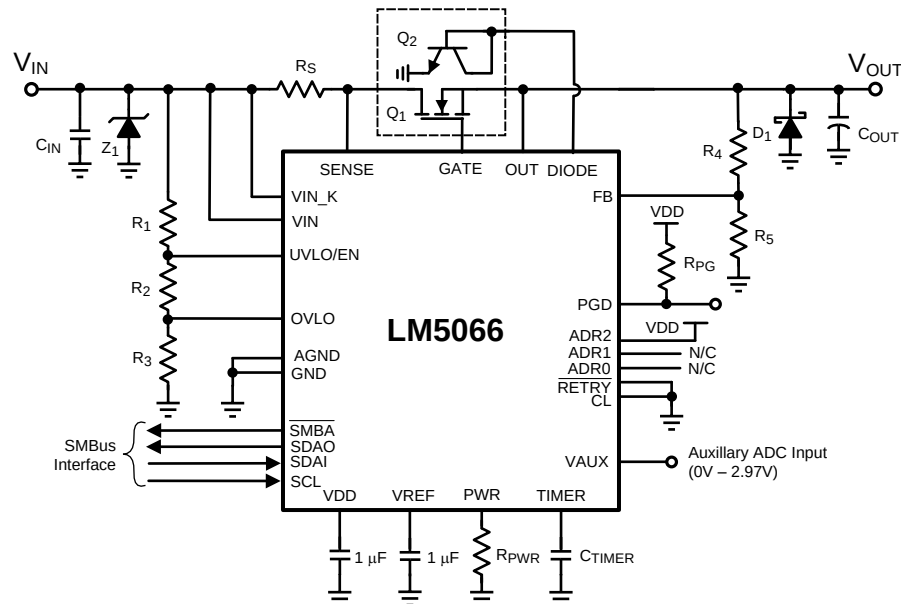
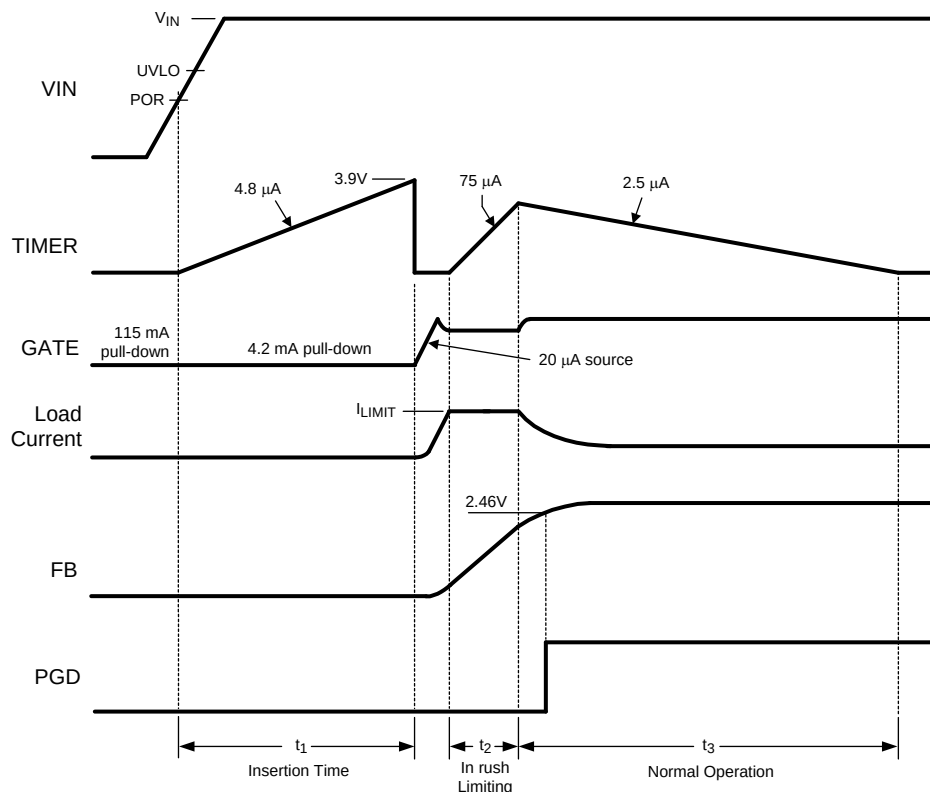

Figure 1. Typical Application Circuit
Figure 2. Power Up Sequence (Current Limit Only)
The V_{IN} operating range of the LM5066 is 10V to 80V, with a transient capability to 100V. Referring to Figure 1 and Figure 2, as the voltage at V_{IN} initially increases, the external N-channel MOSFET (Q_1) is held off by an internal 115 mA pull-down current at the GATE pin. The strong pull-down current at the GATE pin prevents an inadvertent turn-on as the MOSFET’s gate-to-drain (Miller) capacitance is charged. Additionally, the TIMER pin is initially held at ground. When the V_{IN} voltage reaches the POR threshold the insertion time begins. During the insertion time, the capacitor at the TIMER pin (C_T) is charged by a 4.8 μA current source, and Q_1 is held off by a 4.2 mA pull-down current at the GATE pin regardless of the input voltage. The insertion time delay allows ringing
As the voltage at the OUT pin increases, the LM5066 monitors the drain current and power dissipation of MOSFET Q_1 . In-rush current limiting and/or power limiting circuits actively control the current delivered to the load. During the in-rush limiting interval (t_2 in Figure 2) an internal 75 μ A fault timer current source charges C_T . If Q_1 's power dissipation and the input current reduce below their respective limiting thresholds before the TIMER pin reaches 3.9V, the 75 μ A current source is switched off, and C_T is discharged by the internal 2.5 μ A current sink (t_3 in Figure 2). The in-rush limiting will no longer engage unless a current-limit condition occurs.
A charge pump provides the voltage at the GATE pin to enhance the N-Channel MOSFET's gate (Q_1). During normal operating conditions (t_3 in Figure 2) the gate of Q_1 is held charged by an internal 20 μ A current source. The charge pump peak voltage is roughly 13.5V, which will force a V_{GS} across Q_1 of 13.5V under normal operation. When the system voltage is initially applied, the GATE pin is held low by a 115 mA pull-down current. This helps prevent an inadvertent turn-on of Q_1 through its drain-gate capacitance as the applied system voltage increases.
During the insertion time (t_1 in Figure 2) the GATE pin is held low by a 4.2 mA pull-down current. This maintains Q_1 in the off-state until the end of t_1 , regardless of the voltage at VIN or UVLO. Following the insertion time, during t_2 in Figure 2 the gate voltage of Q_1 is modulated to keep the current or power dissipation level from exceeding the programmed levels. While in the current or power limiting mode, the TIMER pin capacitor is charging. If the current and power limiting cease before the TIMER pin reaches 3.9V the TIMER pin capacitor then discharges, and the circuit begins normal operation. If the in-rush limiting condition persists such that the TIMER pin reached 3.9V during t_2 , the GATE pin is then pulled low by the 4.2 mA pull-down current. The GATE pin is then held low until either a power up sequence is initiated (RETRY pin to VDD), or an automatic retry is attempted (RETRY pin to GROUND or floating). See the Fault Timer & Restart section. If the system input voltage falls below the UVLO threshold, or rises above the OVLO threshold, the GATE pin is pulled low by the 4.2 mA pull-down current to switch off Q_1 .
When the current limit or power limit threshold is reached during turn-on, or as a result of a fault condition, the gate-to-source voltage of Q_1 is modulated to regulate the load current and power dissipation in Q_1 . When either limiting function is active, a 75 μ A fault timer current source charges the external capacitor (C_T) at the TIMER pin as shown in Figure 2 (Fault Timeout Period). If the fault condition subsides during the Fault Timeout Period before the TIMER pin reaches 3.9V, the LM5066 returns to the normal operating mode and C_T is discharged by the 1.5 mA current sink. If the TIMER pin reaches 3.9V during the Fault Timeout Period, Q_1 is switched off by a 4.2 mA pull-down current at the GATE pin. The subsequent restart procedure then depends on the selected retry configuration.
A) Insertion Delay -Upon applying the system voltage (V_{IN}) to the circuit, the external MOSFET (Q_1) is held off during the insertion time (t_1 in Figure 2) to allow ringing and transients at V_{IN} to settle. Since each backplane's response to a circuit card plug-in is unique, the worst case settling time must be determined for each application. The insertion time starts when V_{IN} reaches the POR threshold, at which time the internal 4.8 μA current source charges C_T from 0V to 3.9V. The required capacitor value is calculated from: